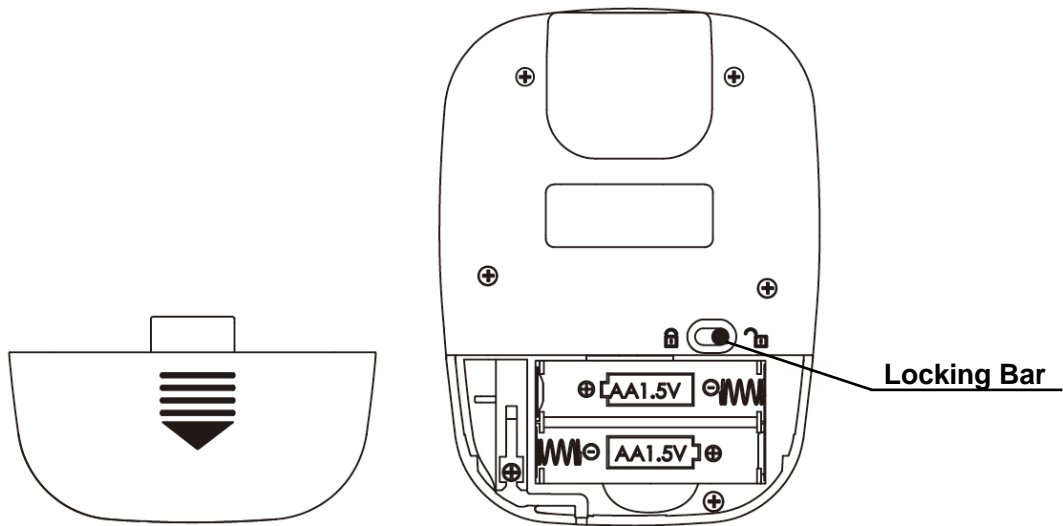

Figure 2
1. Push the locking bar to the right, and then open the battery cover. (as shown in **Figure 2**)
2. Install batteries into the slots per the “+” and “-” symbol. Cover the battery cover. (as shown in **Figure 2**)